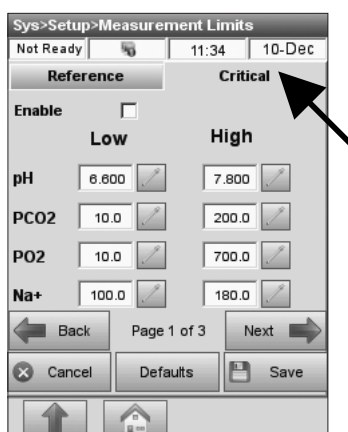

Fig. 3-36 Enter Critical Limits
6. Select the **<Critical>** tab (Fig. 3-36).